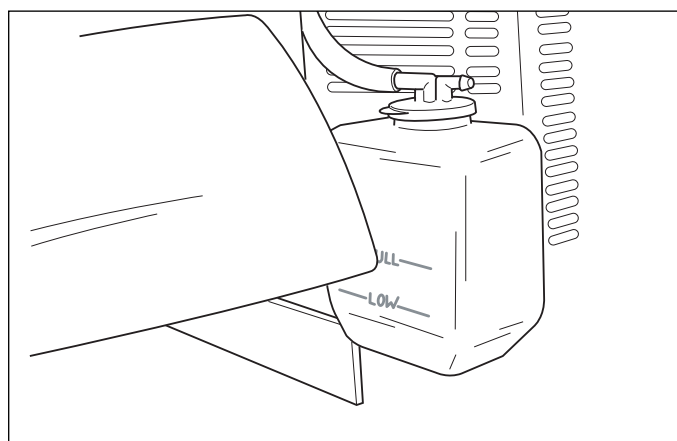

Figure 20. Radiator Overflow Bottle
3. Check the coolant level in the radiator overflow bottle (Figure 20). If coolant level is low, add coolant until level is at the "FULL" line. Proper coolant mix is a 50/50 mixture of ethylene glycol and distilled water. See engine owners manual for antifreeze specifications.